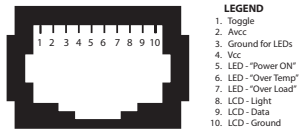

Fig. 2 Remote Control RC-200 - Pinout of Modular Jack RJ-50
The pinout of the RJ-50 Modular Jack (7) at the back of the unit is given at Fig. 2 below:
1. As shown in Figure 2